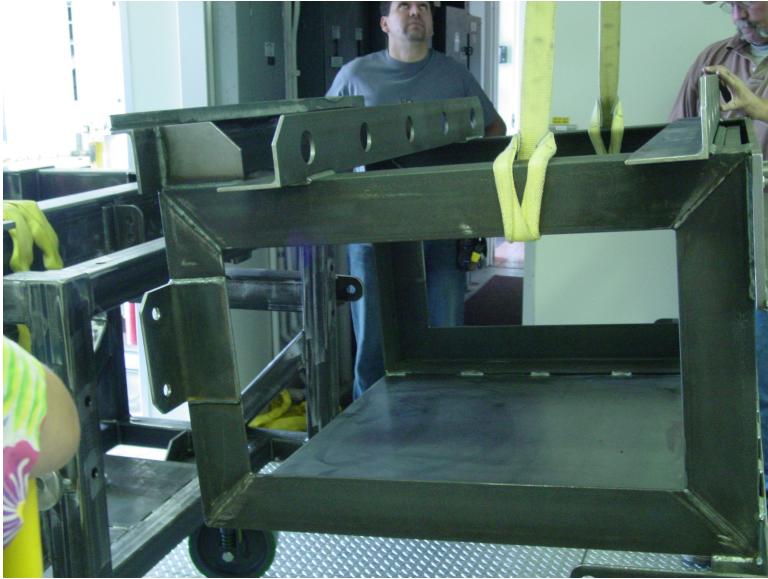

Figure 2
6. Using the crane and the two 10 foot straps, lift the counterweight assembly to the telescope floor. The lifting point is as noted in Figure 2.